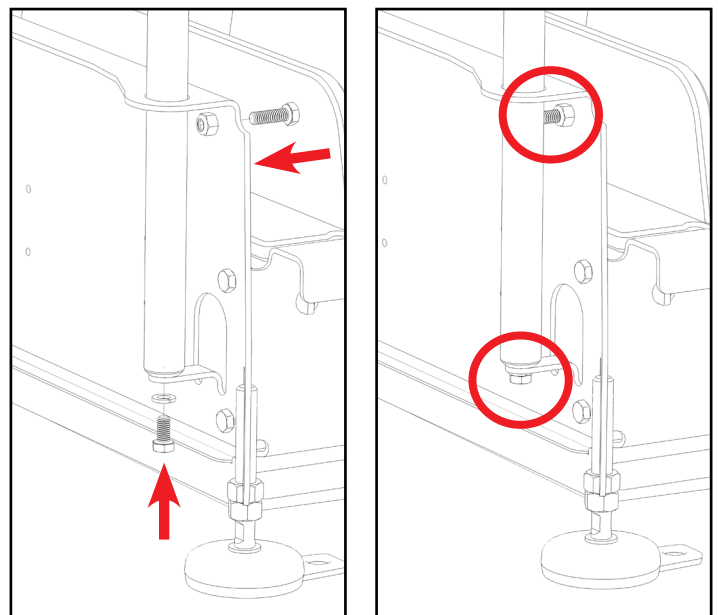

Fig. 5.2: Handrail stabilization bolts
2. Using a 1/2" wrench or socket, secure the handrails in place using the included 5/8" bolts, with lock washers, to the bottom bracket of the each handrail [Figure 5.2].
3. Using two 1/2" wrenches tighten the bolt through the locknut until the bolt bottoms out against the handrail to secure in place [Figure 5.2].